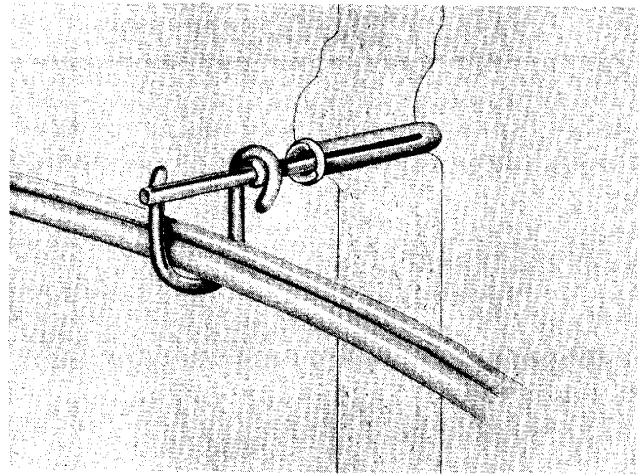

Fig. 8—Drive Ring Attached to Masonry
3.01 Drive rings are formed steel loops having a pointed shaft suitable for hammer-driven attachment to wood or masonry surfaces. They are available in seven sizes for use with station wire or cables. On wood surfaces, attach drive rings to beams or studding. On masonry surfaces, use with D Drive Anchors (Fig. 8).